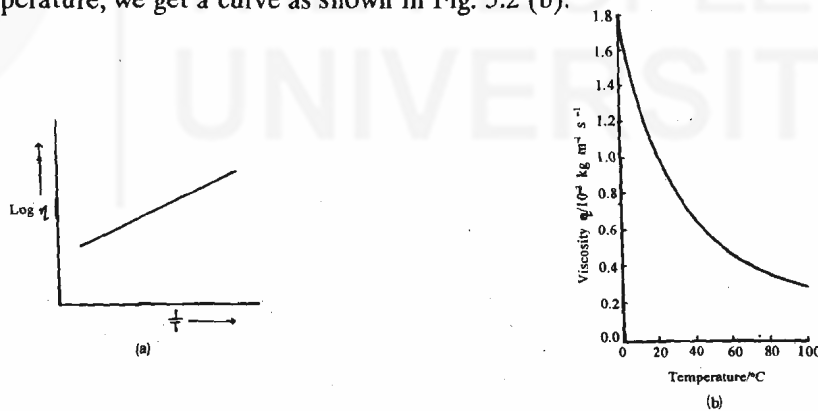

Fig. 5.2 : Temperature dependence of viscosity of water.
The plot of log η against  $\frac{1}{T}$ , therefore, gives a straight line, demonstrating the fact that the viscosity of a liquid rapidly decreases with the rise in temperature, see Fig. 5.2. (a).
On the other hand, if we plot a graph between coefficient of viscosity and temperature, we get a curve as shown in Fig. 5.2 (b).
In this experiment, you will make use of the Ostwald viscometer. This is usually employed in the laboratory for the determination of the coefficient of viscosity of liquids. Ostwald viscometer is a simple apparatus and is shown in Fig. 5.2. It consists of a bulb A, with a mark (X) above and as mark (Y) below, attached to a capillary tube B and a storage bulb C.